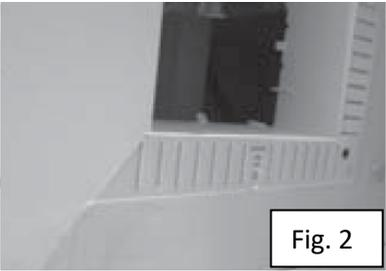

Fig. 2
- Finish with plaster, smoothing it evenly around the mud flange. [Fig. 2]